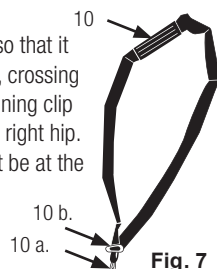

Fig. 7
1. Position the harness (10) so that it passes over the left shoulder, crossing the chest and back. The retaining clip (10a) must be located on the right hip. The quick release (10b) must be at the front (Fig. 7).